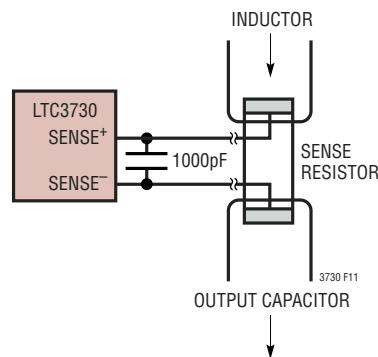

Figure 11. Kelvin Sensing R_{SENSE}
3) Are the $SENSE^-$ and $SENSE^+$ printed circuit traces for each channel routed together with minimum PC trace spacing? The filter capacitors between $SENSE^+$ and $SENSE^-$ for each channel should be as close as possible to the pins of the IC. Connect the $SENSE^-$ and $SENSE^+$ pins to the pads of the sense resistor as illustrated in Figure 11.